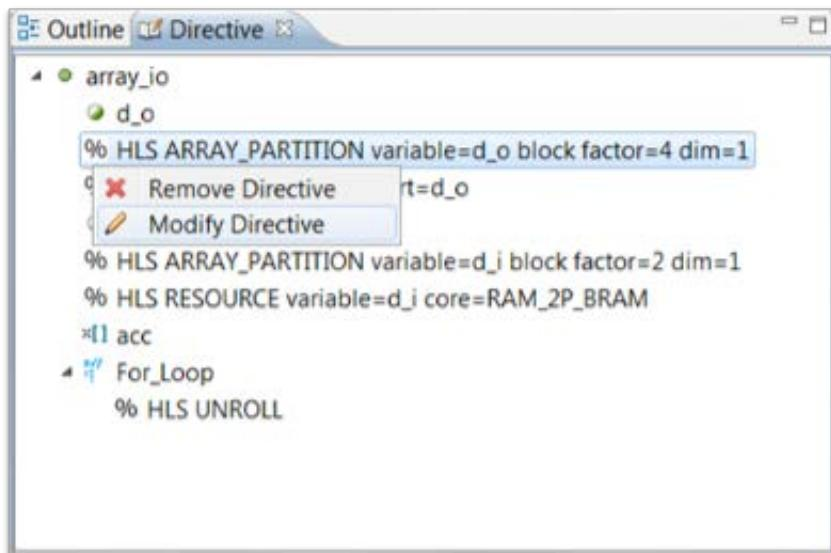

Figure 79 Modifying the Directive for d_o
4. In the Directives tab, select the existing partition directive for d_o as shown in Figure 79